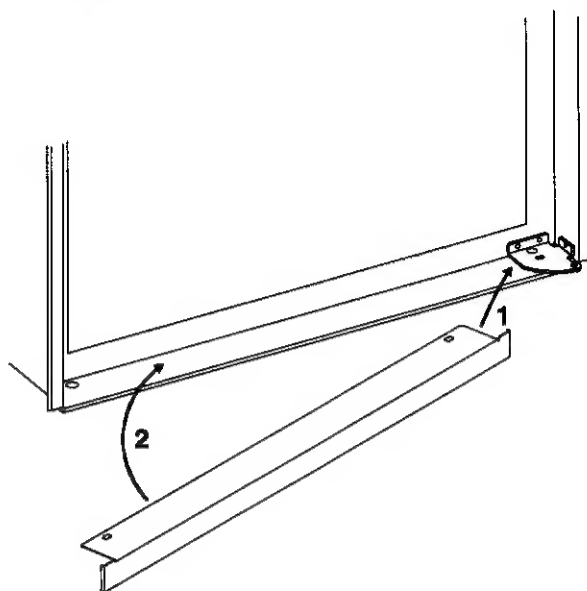

FIG. 3
1. Install the lower front strip by sliding it under the bottom hinge plate, as shown in fig. 3. The hinge plate can be on the right or left side depending on the door swing.